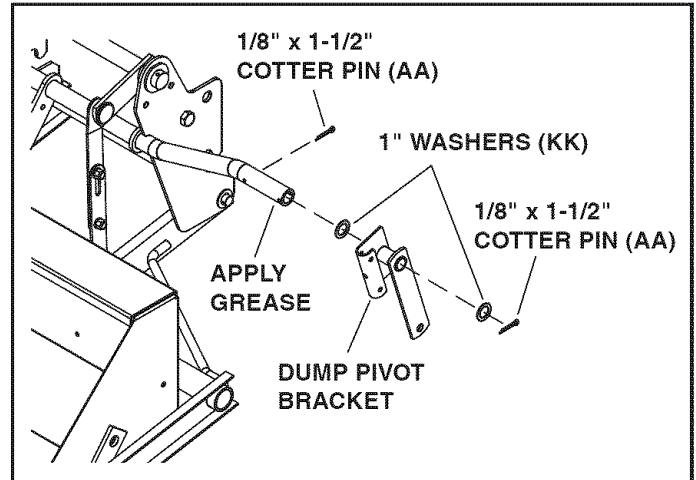

FIGURE 7
(SEE FIGURE 7)**
- Install a 1/8" x 1-1/2" cotter pin (AA) to the inside hole in the shaft shown in figure 7, and then install a 1" washer (KK) onto the shaft. Apply grease to the end of the shaft and install the dump pivot bracket assembly onto the shaft. Install a 1" washer (KK) onto the shaft and secure it using a 1/8" x 1-1/2" cotter pin (AA).